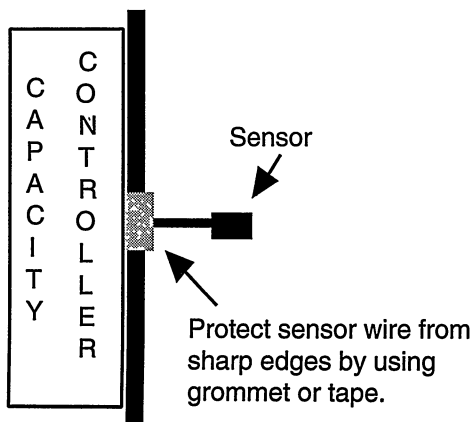

Figure 2. Capacity Controller Mounted with Sensor
- D. For the 101AIAS, or if mounting any other model with the sensor integral with Capacity Controller, place sensor through hole made in duct and mount Capacity Controller to duct with screws. Use grommet or tape to protect sensor wire from sharp edges. See Figure 2.